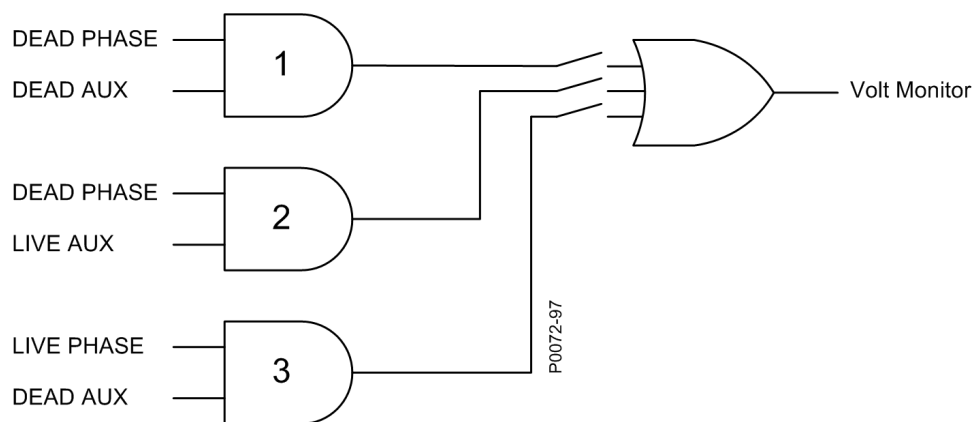

Figure 6-1. Voltage Monitor Logic
The Volt Monitor logic is illustrated in Figure 6-1. Any combination of logic settings can be selected for the Voltage Monitor Logic on the Sync-Check (25) settings screen in *BESTCOMSPPlus*. When a logic combination is selected, the sync-check element closes the respective switch in Figure 6-1 associated with each of the outputs.